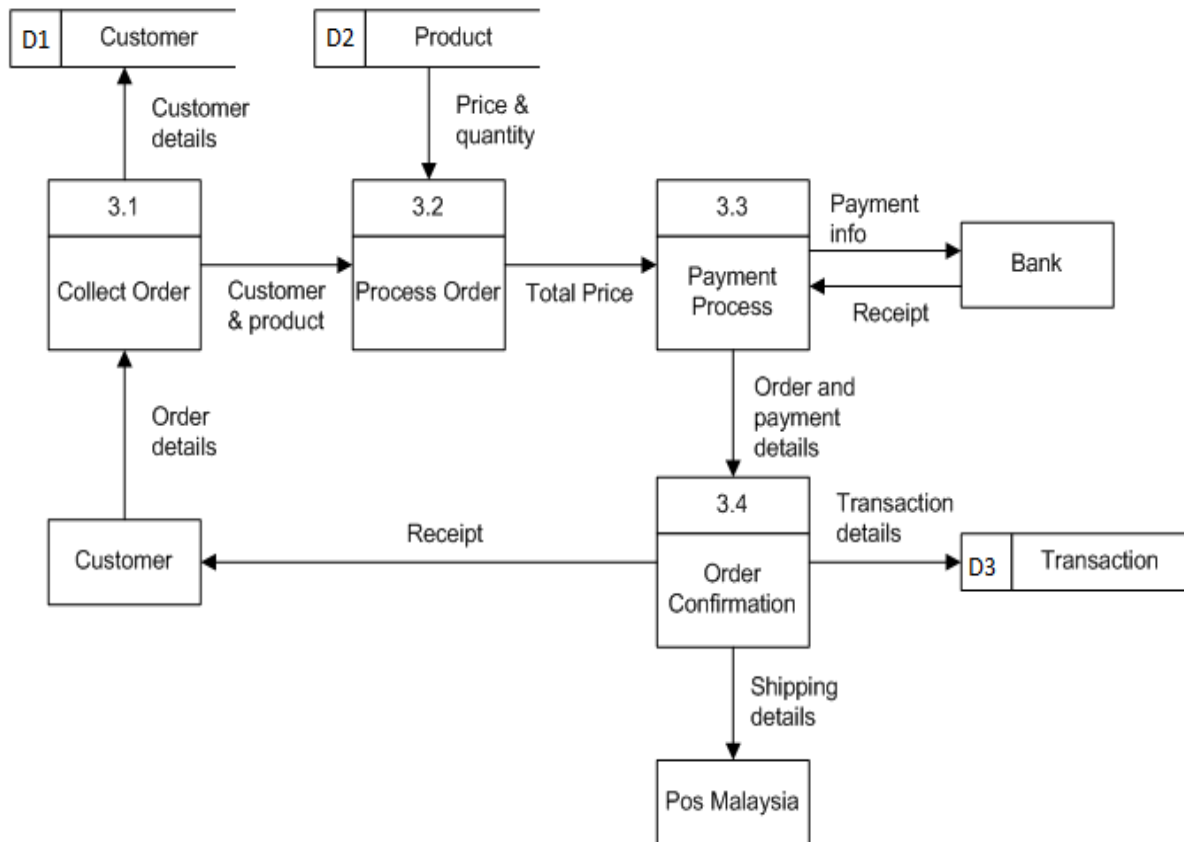

Figure 4: Data Flow Diagram Level 1 of new order process for the Online Shopping System
- (a) Figure 4 describes a new order process for the Online Shopping System. Convert the data flow diagram into a structure chart.